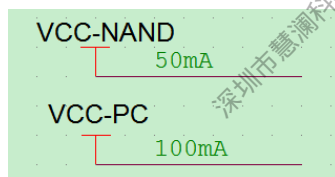

Figure 2-20 The Operating Current and Voltage Label of Flash Power
- Must mark the operating voltage and the maximum operating current about NAND/eMMC in the schematic diagram to facilitate PCB layout design. As shown in Figure 2-20.